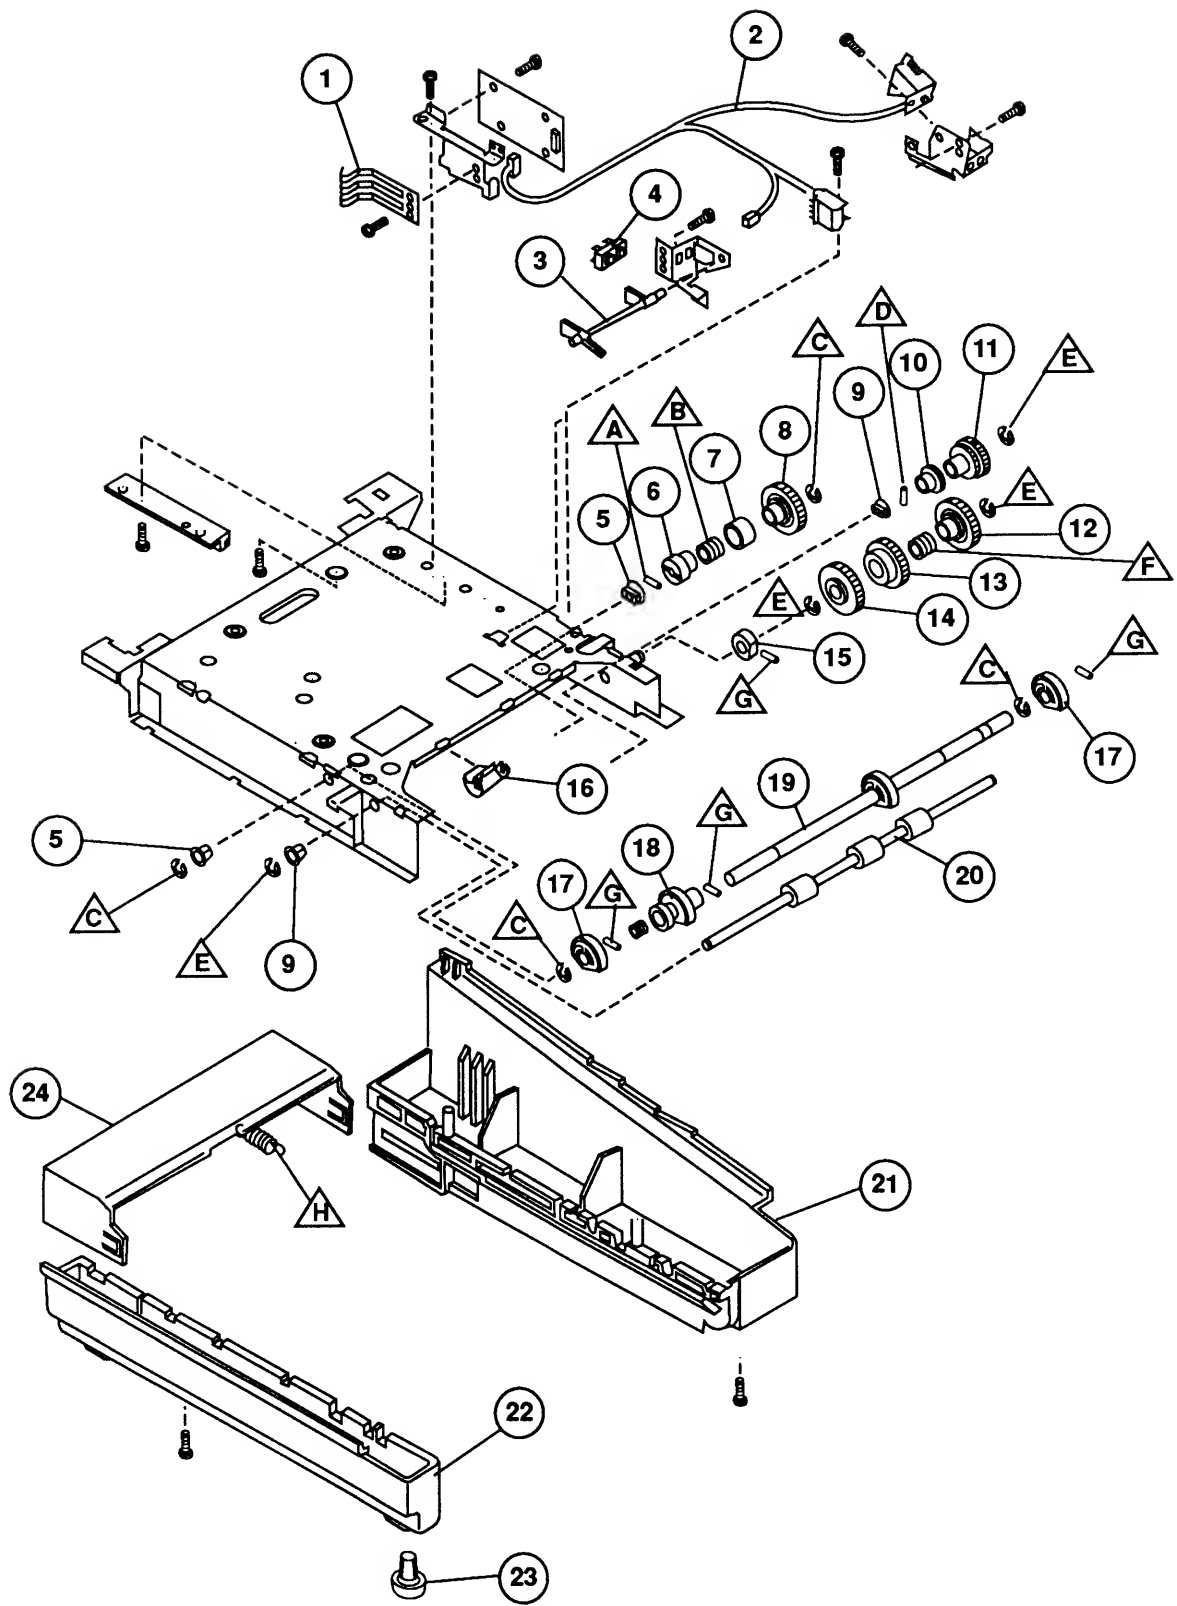

Figure 10
□ CASSETTE FEEDER ASSEMBLY (Figure 10)